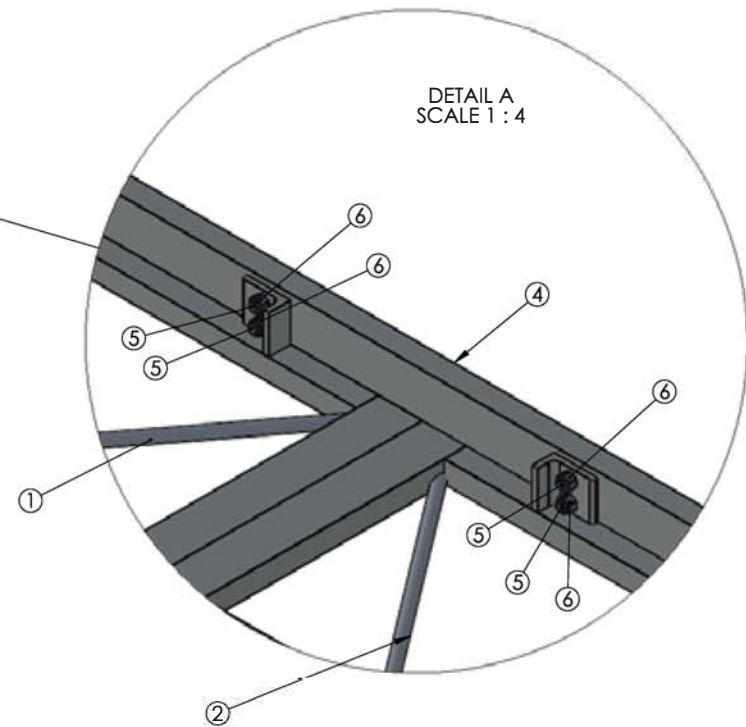

Figure 1
1. Locate frames marked “A” and “B.” Lay frames on floor, with stickers facing up and in the same direction. Frame “A” sticker should be on the bottom of the frame facing up, with frame “B” being on the top of the frame. Line up sides. Be sure to only tighten bolts to snug. **(Figure 1, detail A)**
2. Locate frames marked “C” and “D.” Attach frame C to frames A and B using bolts. **(Figure 1)**